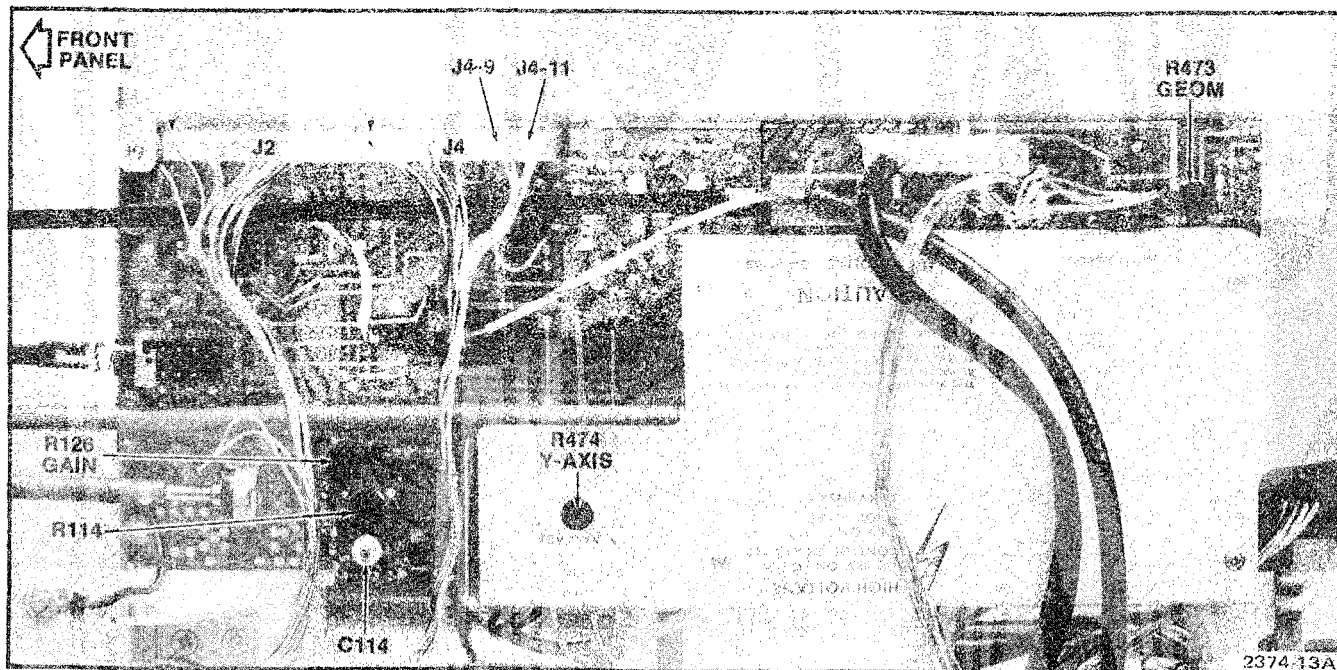
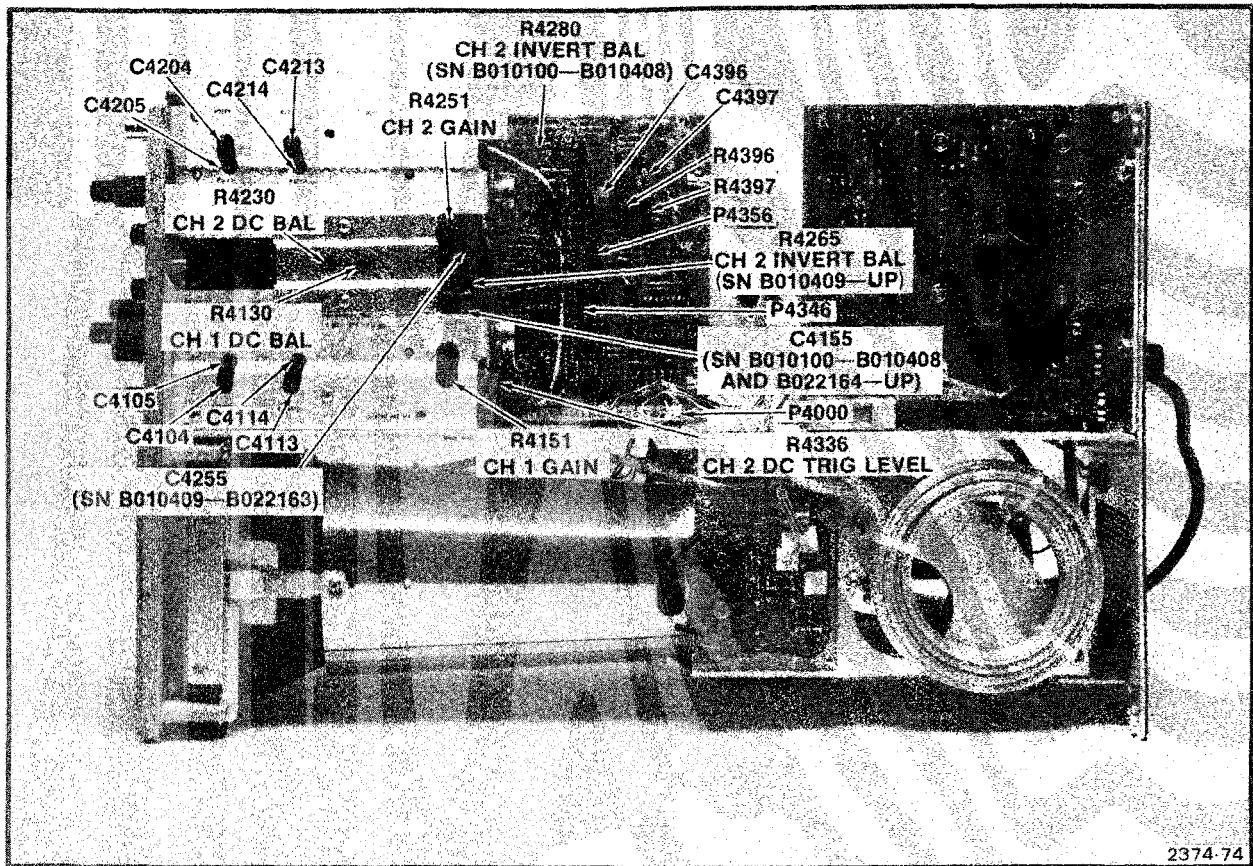
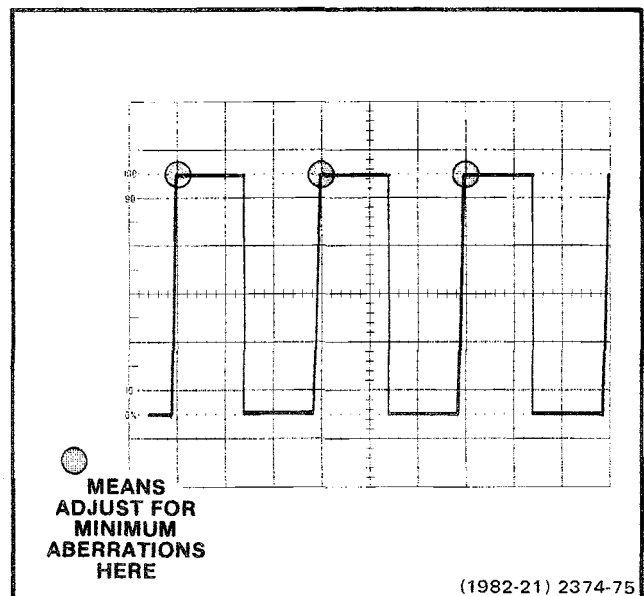

Figure 4-8. Interface board adjustment locations (board shown in access position).
Figure 4-9. Vertical attenuator, preamplifier, delay line driver, and CH 2 dc trigger level adjustment locations.
Figure 4-10. Display of correct (idealized) attenuator compensation.
- e. ADJUST—R474 (Y-Axis Adjust, see Figure 4-8) to align the center time marker with the center vertical graticule line.
- b. ADJUST—R473 (Geom Adjust, see Figure 4-8) for best overall alignment of the time markers with the vertical graticule lines (minimum bowing of time markers).
a. ADJUST—CH 1 DC BAL (R4130, see Figure 4-9) for minimum trace shift while switching Channel 1 VOLTS/DIV between 10 m and 20 m settings.
c. ADJUST—CH 2 DC BAL (R4230, see Figure 4-9) for minimum trace shift while switching Channel 2 VOLTS/DIV between 10 m and 20 m settings.
d. ADJUST—Either R4265 (SN B010409-up) or R4280 (SN B010100-B010408) for minimum trace shift while alternately pressing the DIFF and CH 2 Vertical Mode buttons (see Figure 4-9 for location of adjustments).
b. Preset R126, Gain (see Figure 4-8), R4151 (Channel 1 Gain), and R4251 (Channel 2 Gain, see Figure 4-9), all fully counterclockwise for minimum gain.
c. ADJUST—C4114 (see Figure 4-9) for best square front corner (see Figure 4-10 for example).
e. ADJUST—C4105 (see Figure 4-9) for the best front corner on the square-wave display (see Figure 4-10 for example). Disconnect the test equipment from the 442.
c. ADJUST—C4214 (see Figure 4-9) for the best square front corner on the displayed waveform (see Figure 4-10 for example).
e. ADJUST—C4205 (see Figure 4-9) for the best square front corner (see Figure 4-10 for example). Disconnect the test equipment from the 442.
e. ADJUST—R4397, C4397, C4396, R4396 (see Figure 4-9) and C114, R114 (see Figure 4-8), using a low-capacitance alignment tool, for best front corner of the waveform.
f. ADJUST—(For serial numbers below B010409 and above B022163) C4155 (see Figure 4-9) for best front corner of the waveform (use a low-capacitance alignment tool).
i. ADJUST—(For serial numbers B010409 through B022163) C4255 (see Figure 4-9) for best front corner of the waveform (use a low-capacitance alignment tool).